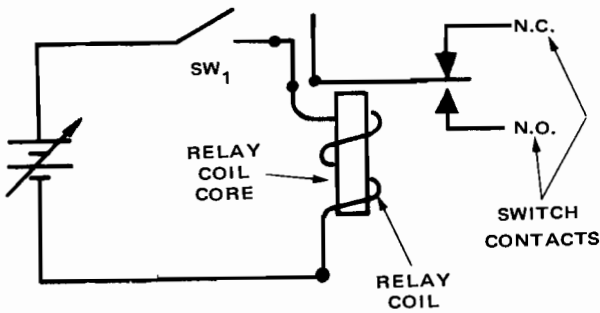

Fig. 6-4-2
10. Construct relay circuit as in Fig. 6-4-2.